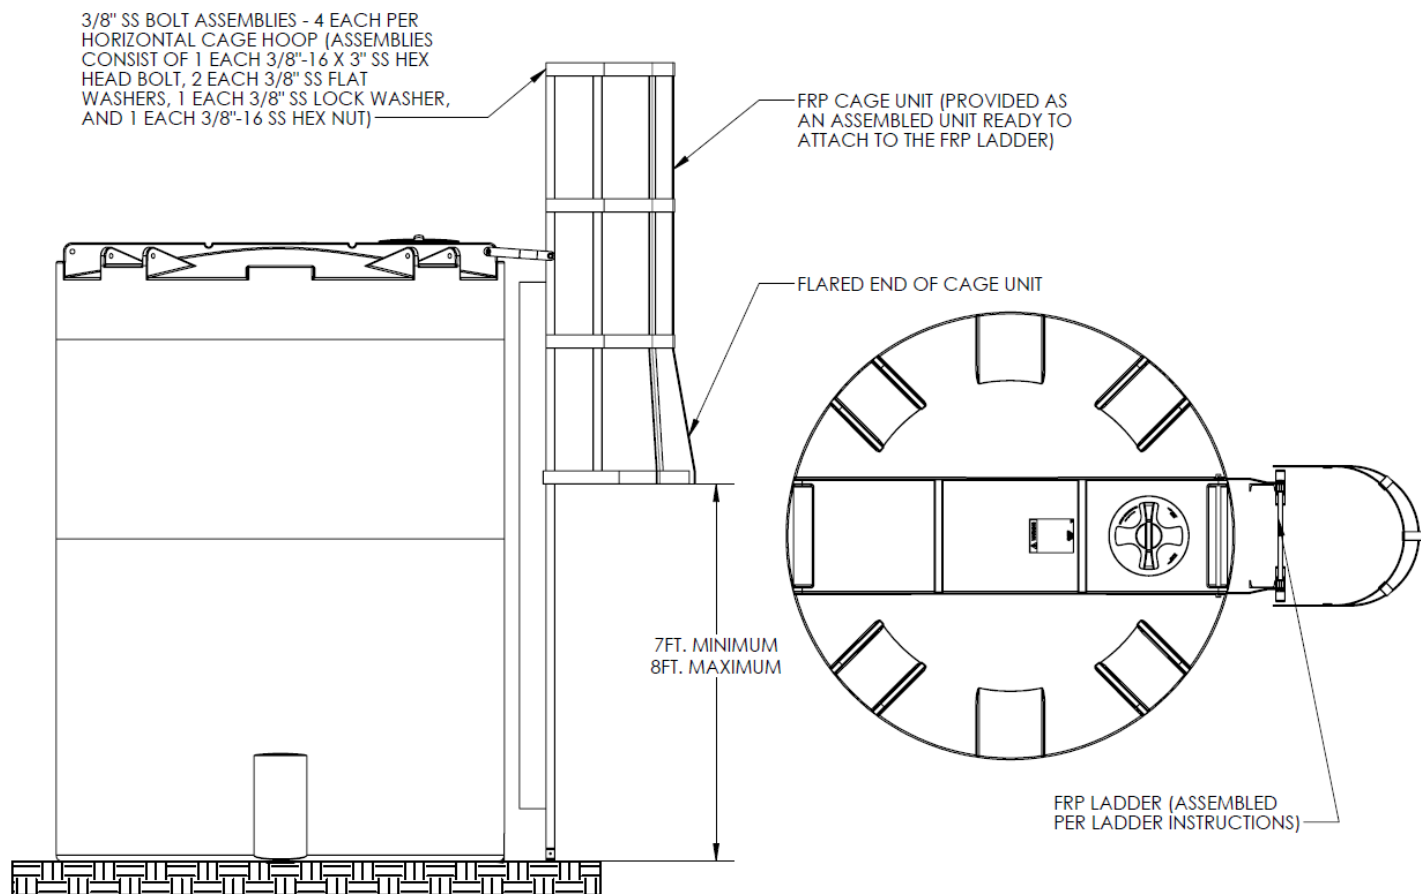

Figure 8.7
8.6.2 Attach the stainless steel top pivoting attachment arms to the ladder using the 1/2" bolt and 3/4" bushing assemblies (2 required) as shown in Figure 8.7. Position the ladder on the tank and attach the top pivoting attachment arms to the tank with the ladder attachment tube and cotter keys provided (see assembly drawing). Position the ladder parallel with the side of the tank and mark 4 ea. 5/8" anchor bolt locations. Install appropriate 5/8" anchor bolts and attach the bottom of the ladder to the concrete pad. Anchor bolts are not provided by the manufacturer and must be purchased by the customer.
8.7.1 Using the assembly drawing shown in Figure 8.7 and the instructions in section 8.6.2, verify that the correct number of fasteners have been shipped to attach the FRP cage unit. These cages are designed for use only with the SII FRP ladder design.